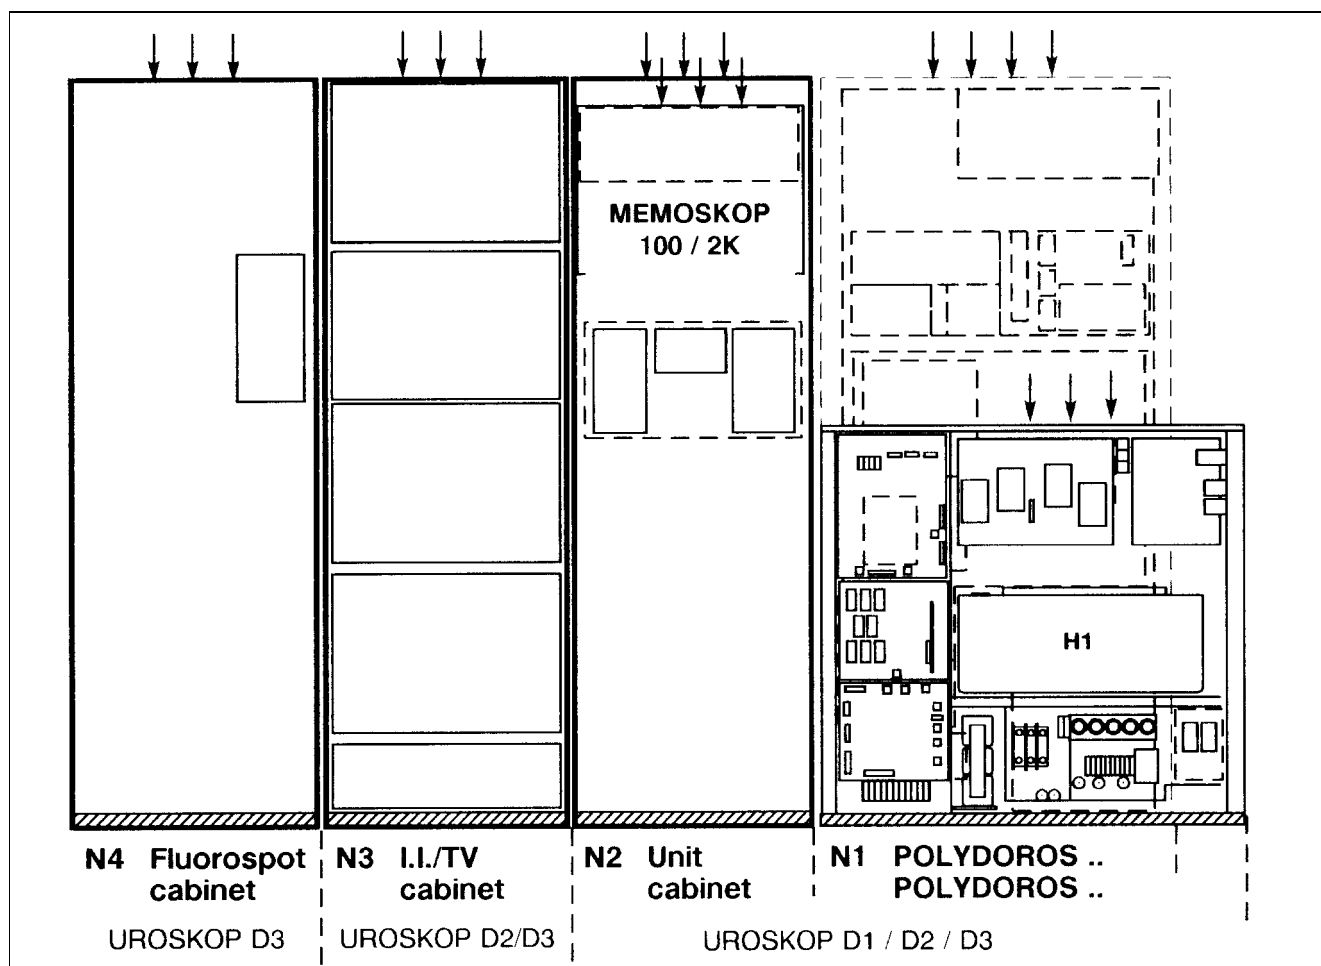

Fig. 4
- Inspect all air vents on the system cabinets and make sure that there are no obstructions, e.g. clogged by dirt, etc. (Fig. 4).